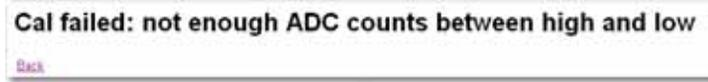

FIG. 326 CAL FAILED NOT ENOUGH ADC COUNTS BETWEEN HIGH AND LOW
- 2 An Error message appears if the calibration was not successful. (See Fig. 326) There is an Error list in Chapter 7, Troubleshooting. Refer to this list in order to correct the error.